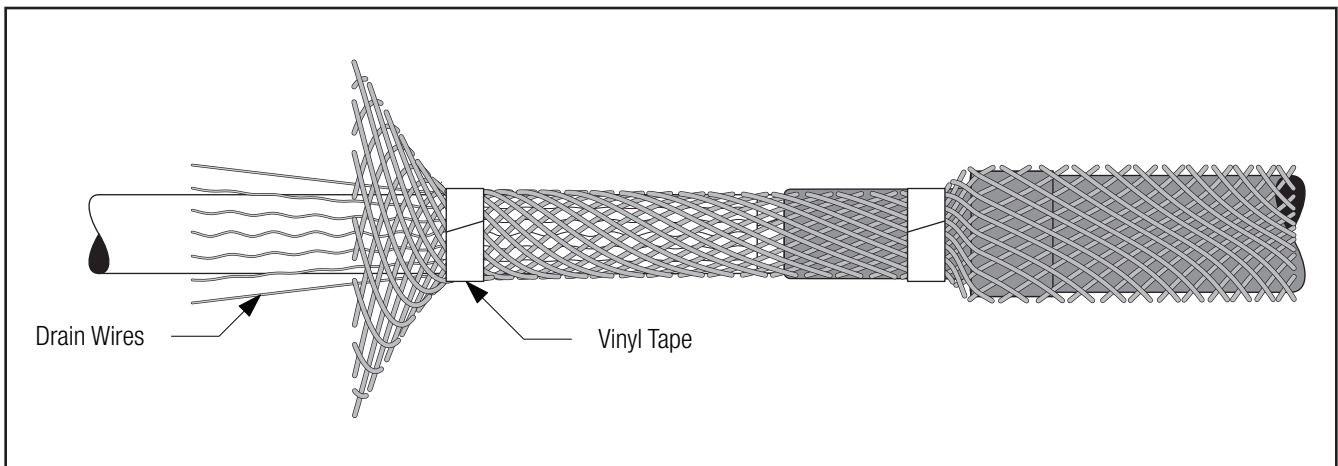

Figure 28
6.4.1 Carefully remove vinyl tape from drain wires. Secure sleeve to cable semi-con jacket next to bent-back shield drain wires using two wraps of vinyl tape (Figure 28).